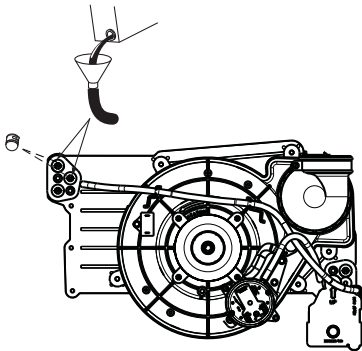

Fig. 58 - Priming Condensate Trap
1. Remove upper and middle collector box drain plugs opposite of the condensate trap. See Fig. 58.
2. Connect field-supplied 5/8-in. (16 mm) ID tube with attached funnel to upper collector box drain connection. See Fig. 58.